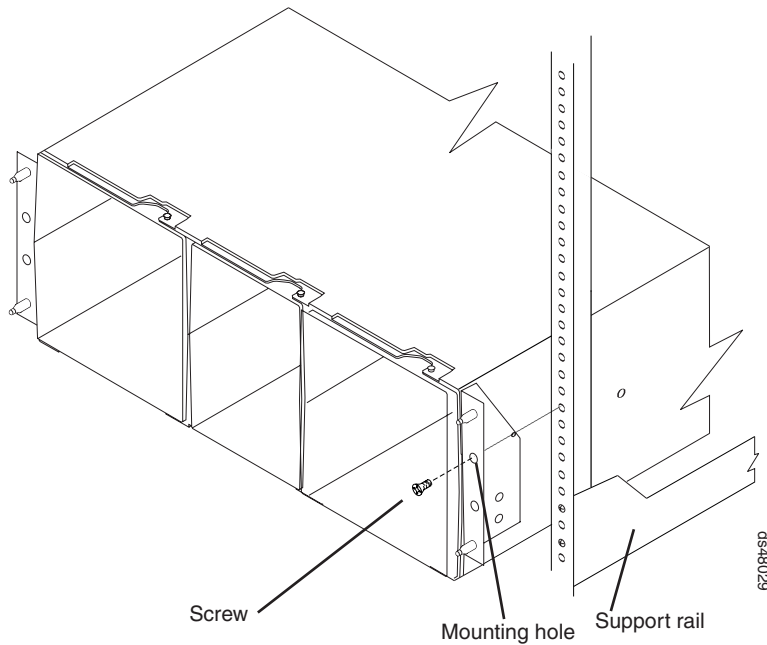

Figure 20. Securing the DS4800 to the rack cabinet
1. Remove the empty DS4800 Storage Subsystem from the shipping box and set the storage subsystem in the cabinet. Figure 20 on page 44 shows the correct orientation of the empty storage subsystem to the cabinet and support rail.
2. Secure the storage subsystem to the cabinet. Figure 20 shows how to secure the DS4800 to the vertical members of the cabinet.